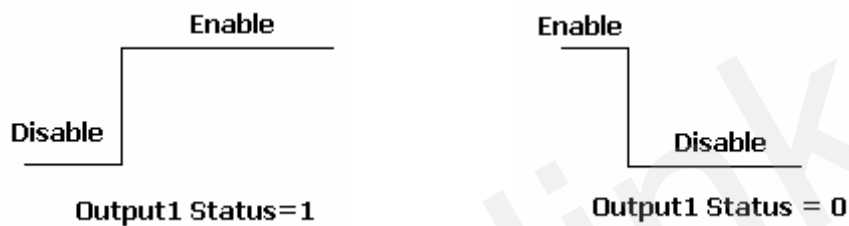
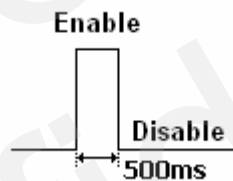
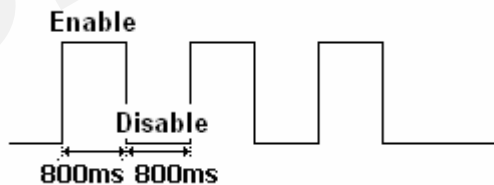

Figure 2: Wave Shape 1
Figure 3: Wave Shape 2
Figure 4: Wave Shape 3
- ✧ <Output1 - 3 Status>: Used only for the wave shape 1 as shown in **Figure 2** to set the final status of the output port.
- ✧ <Duration>: Please refer to **Figure 2**, **Figure 3** and **Figure 4**. Unit is 100ms.
- ✧ <Toggle Times>: Please refer to **Figure 2**, **Figure 3** and **Figure 4**.